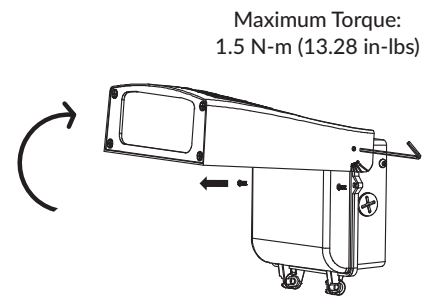

Figure 3
- Use a 3/32 hexagon wrench to loose the side hex screws and adjust luminaire head upward to 90 degrees. (Figure 3). **NOTE: THIS ADJUSTMENT IS ONLY USED DURING INSTALLATION. WHEN CLOSING THE ENCLOSURE, YOU MUST ROTATE THE LED HEAD BACK TO 0° (FACING DOWN).**